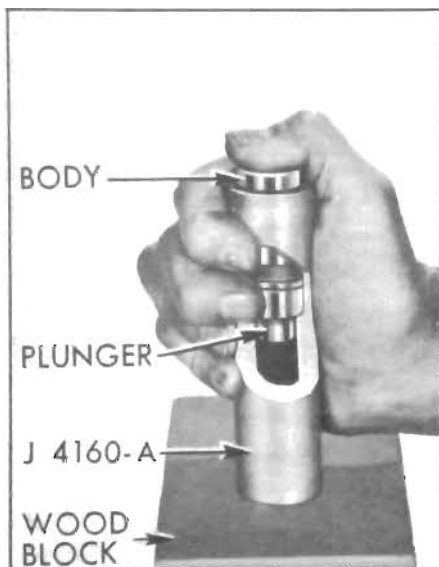

Figure 2-70—Removing Stuck Plunger With J-4160-A
6. If a plunger sticks in lifter body, place lifter in large end of Plunger Remover J-4160-A with plunger inward. While holding lifter with thumb, rap the open end of remover against a block of wood with just enough force to jar the plunger from body. See Figure 2-70.